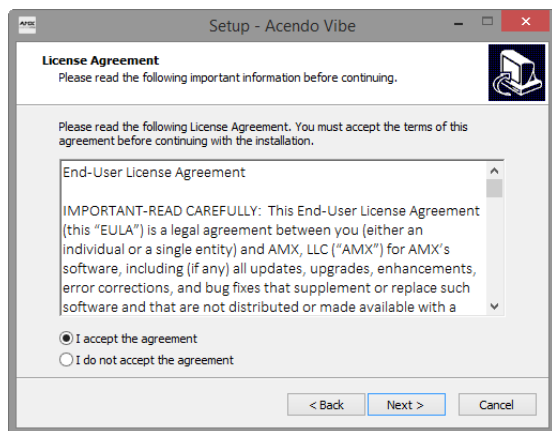

FIG. 20 Acendo Vibe Setup Wizard - License Agreement dialog
- b. Read and accept the *License Agreement*, and click **Next** to proceed (FIG. 20):